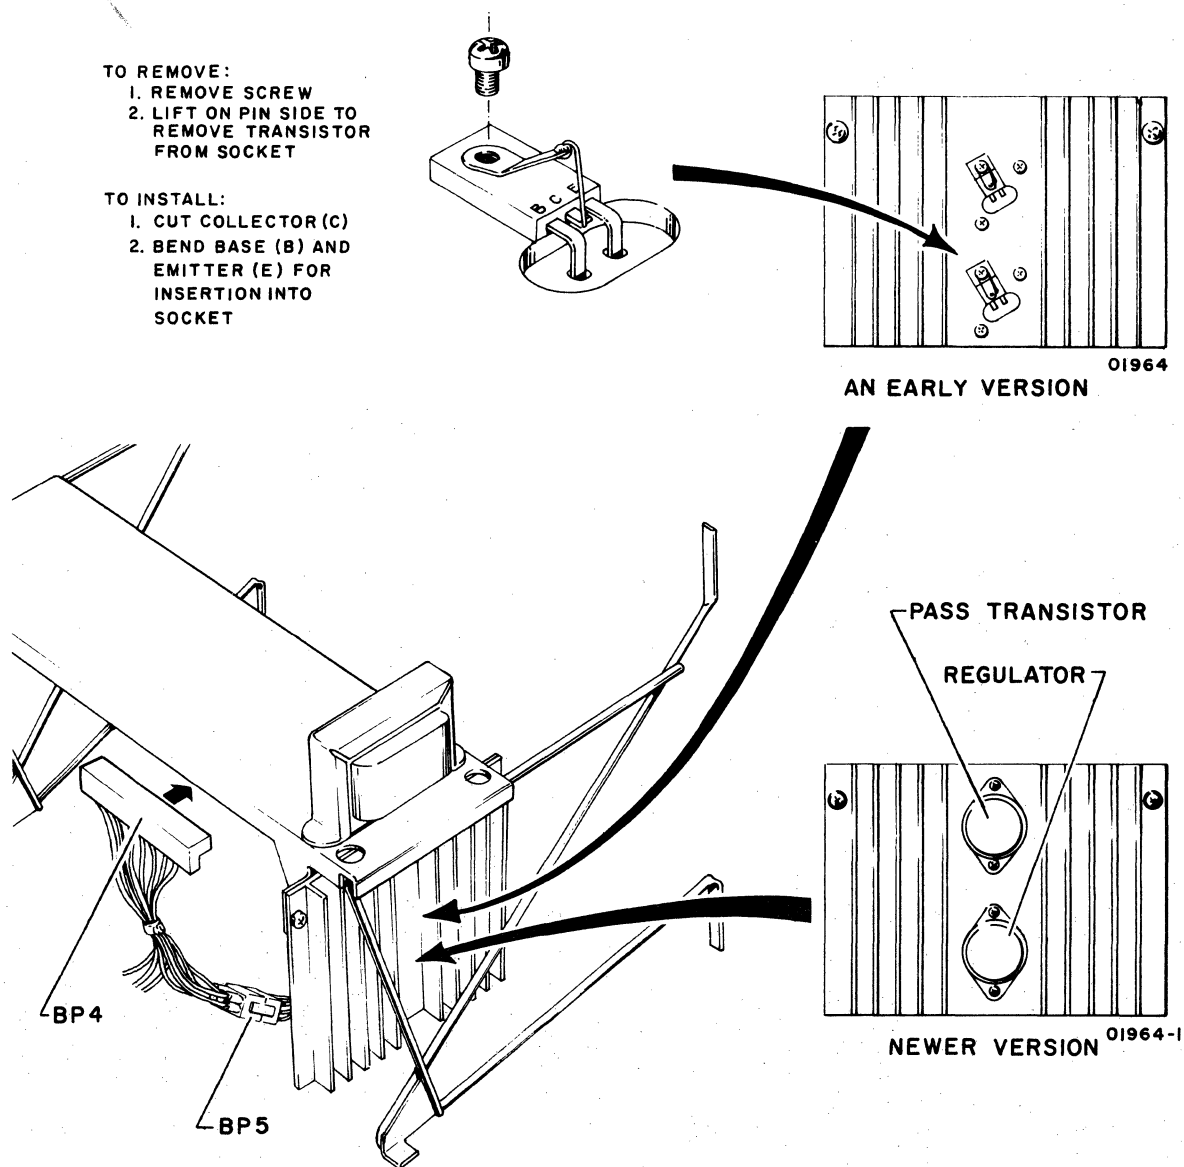
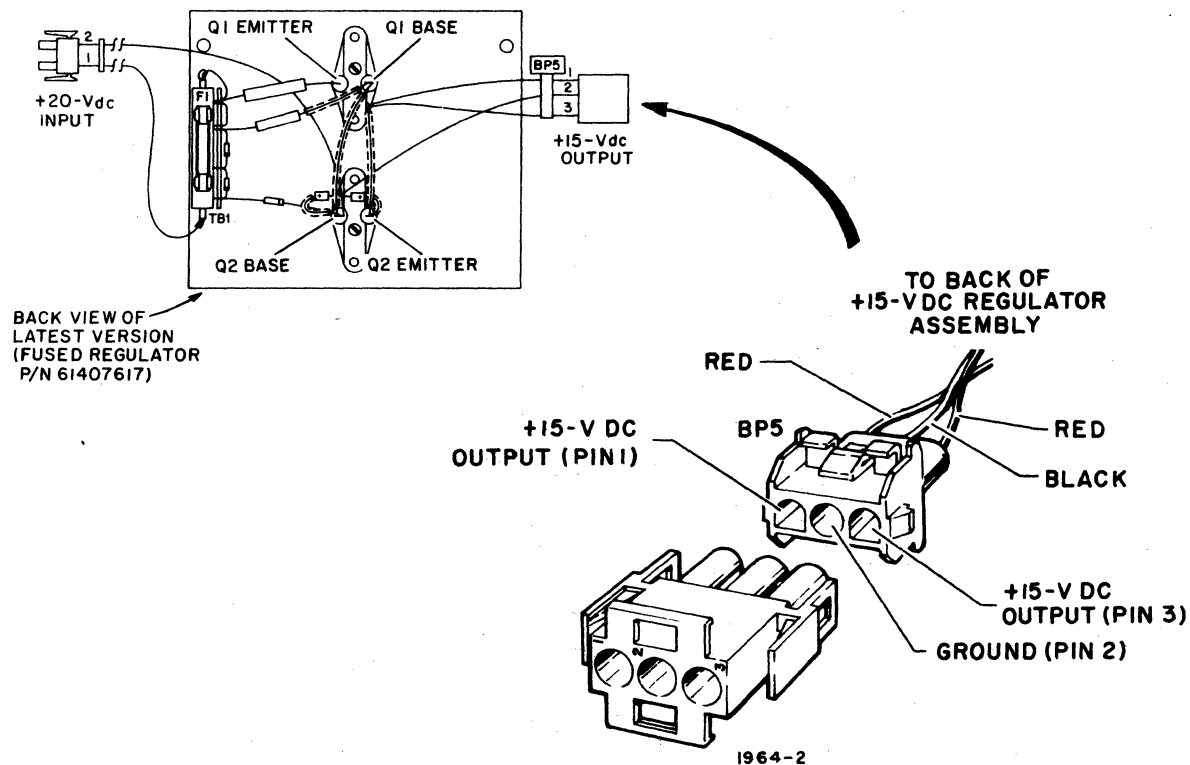

Figure CRT3. +15-V Regulator Assembly
Figure CRT4. BP5 Connector Pins
To remove the regulators and/or transistor mounted on the +15-V dc regulator assembly (figure CRT3) perform the following:
- 2) On early versions (figure CRT3), remove defective regulator(s) by turning out screw(s) that hold it to heat sink, grasp case firmly, and pull from socket. On newer version, remove both the regulator and pass transistor (figure CRT3) by removing the two screws and lockwashers which hold each of them to heat sink, and pull them from their socket.
- 4) Apply thermal compound to bottom of regulator or transistor and plug into socket (figure CRT3). With mounting holes aligned, fasten to heat sink with mounting screws and lockwashers.
- 5) Disconnect BP5 connector (figure CRT3), apply power to display cabinet. Check for $+15 \pm 0.75$ V dc between either pins 1 or 3 of connector BP5 and pin 2 of BP5 which is ground (figure CRT4). If output voltage is within tolerance, proceed to the next step. If output voltage is not within tolerance, replace entire +15-V dc regulator assembly and check voltage again.